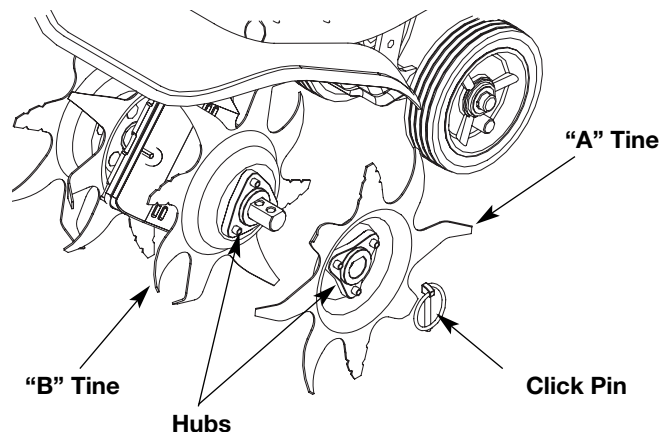

Fig. 14
- Remove the click pin from each end of the tine shaft. Slide the tines off of the shaft (Fig. 14).